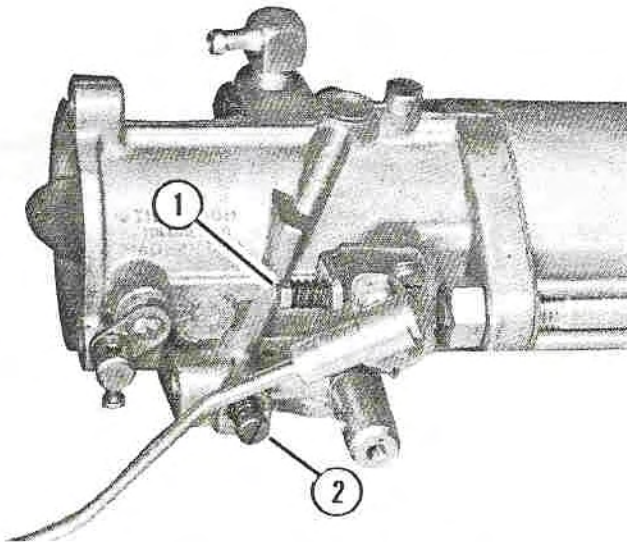

Fig. 7
1. Set the low speed adjusting needle at $5/8$ turn open (Figure 7).